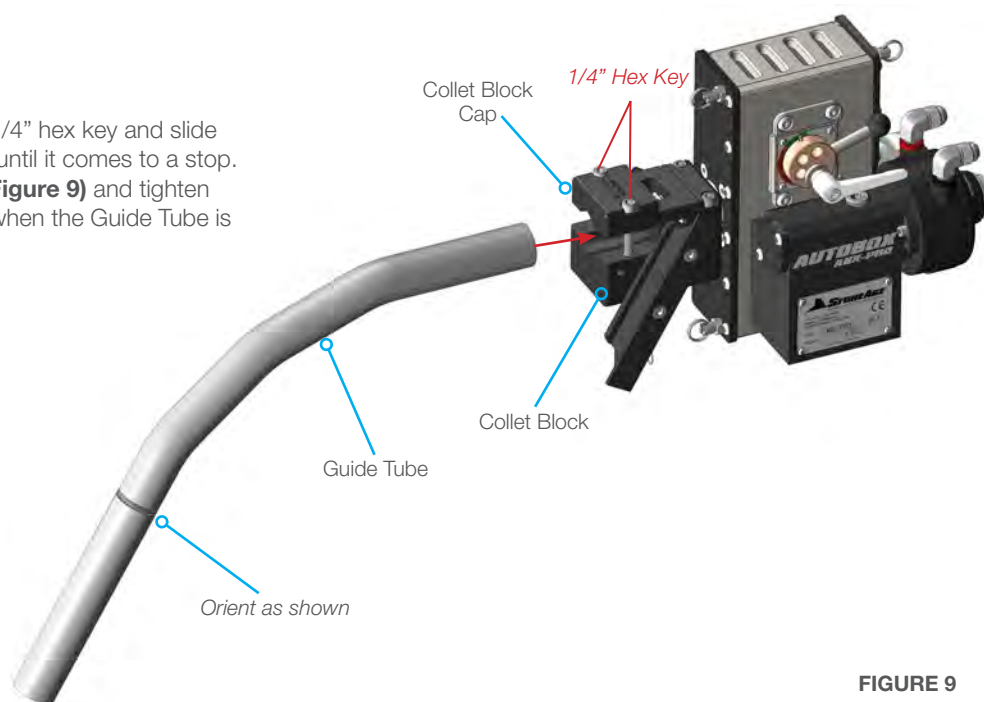

FIGURE 9
3. Loosen the Collet Block Cap with a 1/4" hex key and slide the Guide Tube into the Collet Block until it comes to a stop. Orient the Guide Tube as shown in **(Figure 9)** and tighten the screws on the Collet Block Cap when the Guide Tube is in place.